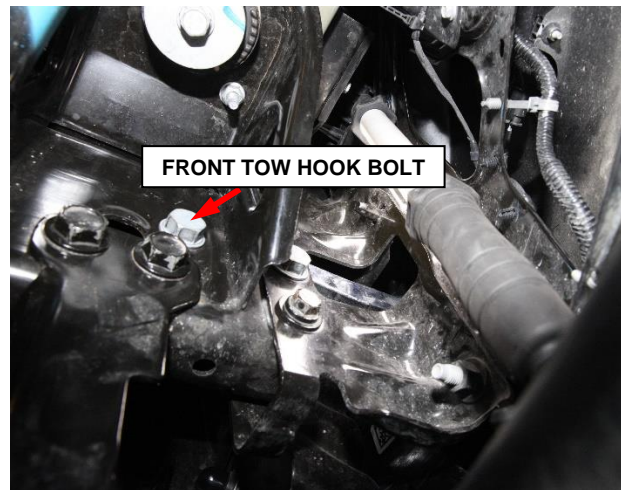

Figure 16 – Front Tow Hook Bolt
28. Install the bolts and pull the hook forward fully (Figure 16). Tighten the fasteners to 295 N·m (218 ft. lbs.).